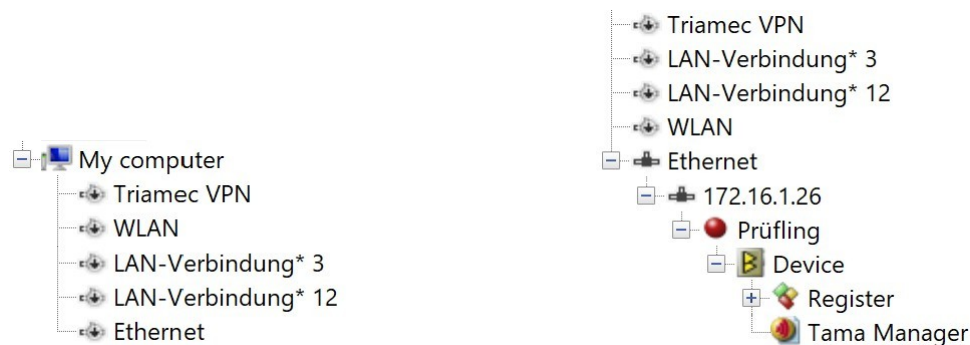

Figure 2: The appearance of Network interface cards (NICs) in the TAM System Explorer
- The accessible network interface cards (NIC) should now be shown in the tree (Figure 2 left side).
- Now the drive(s) should be visible in the tree (Figure 2 right side).